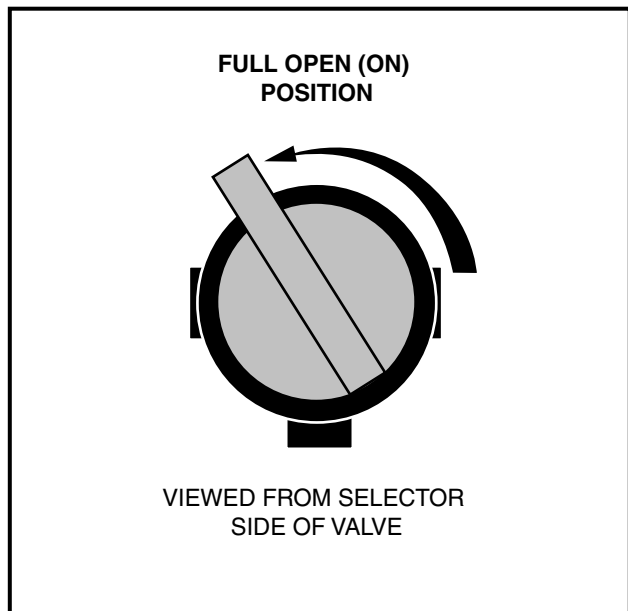
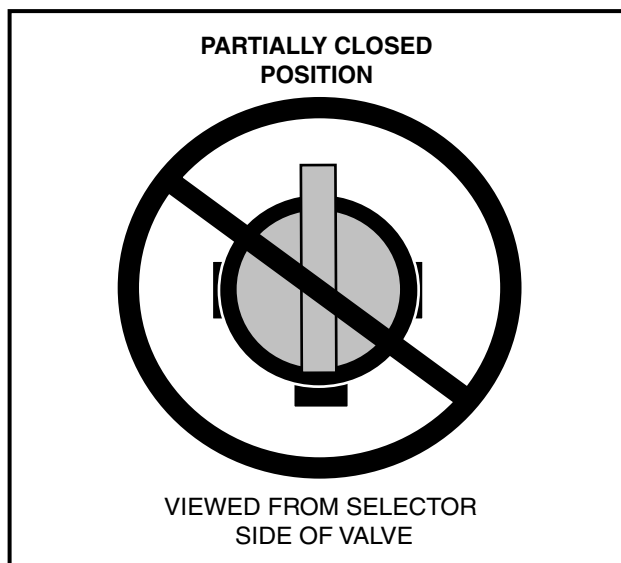

Figure 3-7 Fuel Shut-off Valve – Open position
Figure 3-8 Incorrect Fuel Shut-off Valve Setting
- 2.1. Remove plug from the fuel tank vent nipple and connect fuel vent line to nipple. Open the fuel shut-off valve (**Figure 3-7, Page 3-6**). Make sure the valve is fully open. A partially closed fuel shut-off valve (**Figure 3-8, Page 3-6**) combined with the use of the choke can result in a fouled spark plug and engine failure.